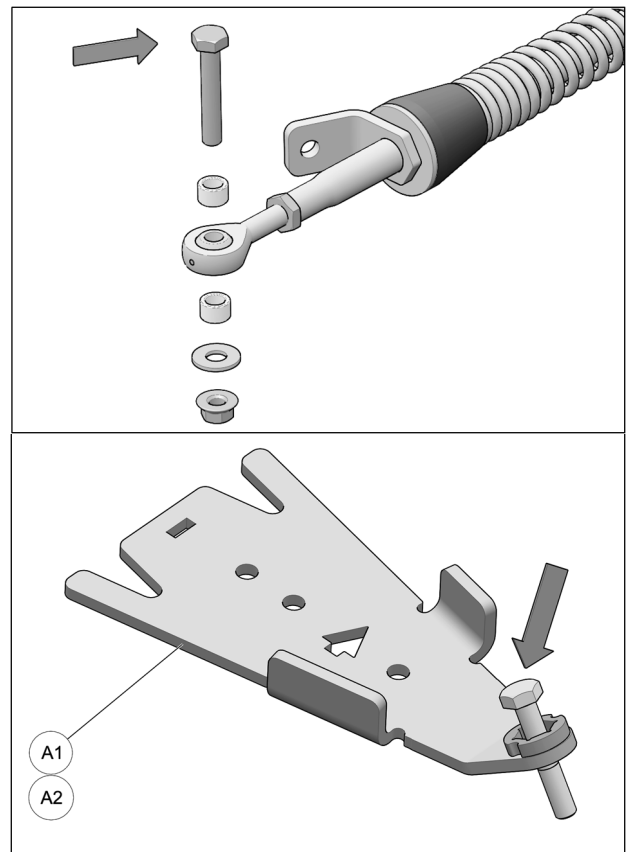

Fig. 12
4. Remove bolt, washer and bushings from front stabilizing rod end and insert bolt in front anchor bracket (A1-A2) as shown in Fig. 12